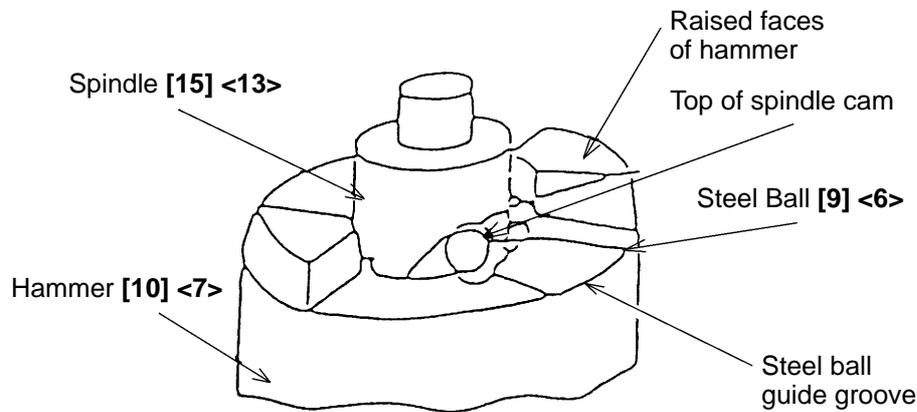
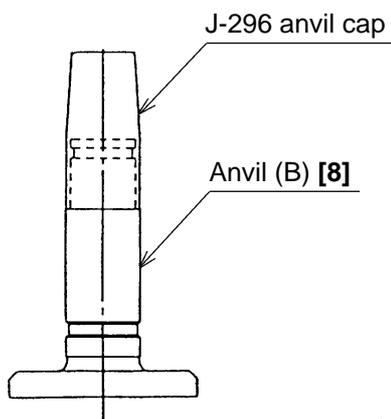

Fig. 3
Fig. 5
(3) Reassembly of the Mechanical Parts
- (a) Put the Washer (S) [13] <11> onto the shaft of the Spindle [15] <13> and mount the Hammer [10] <7> containing the twenty-five Steel Balls D3.5 [7] <8>, Washer (J) [11] <9> and the Spring [12] <10> to the Spindle [15] <13>.
- (b) Align the top of the cam groove on the Spindle [15] <13> with the steel ball guide groove on the Hammer [10] <7> as illustrated in Fig. 3. Press down either of the raised faces of the Hammer [10] <7> with a hand press to compress the Spring [12] <10> until the end surface of the Hammer contacts the flange of the Spindle [15] <13>.
- (d) Mount the hammer assembly onto the J-297 base for washer (S). With a hand press, push down the top of the Spindle [15] <13> to compress the Spring [12] <10>. On this condition, mount the Stopper [14] <12> onto the spindle shaft and then release the hand press.
- (e) Mount the Ring Gear [18] <16>, the Ball Bearing [20] <18>, the Inner Cover [21] <19> and the Damper [22] <20> to the above reassembly. Furthermore, mount the other mechanical parts and Anvil (B) [8] or Anvil (K) Ass'y <4>, then the Hammer Case [6] <2>. When mounting Anvil (B) [8], use the J-296 anvil cap (Fig. 5).